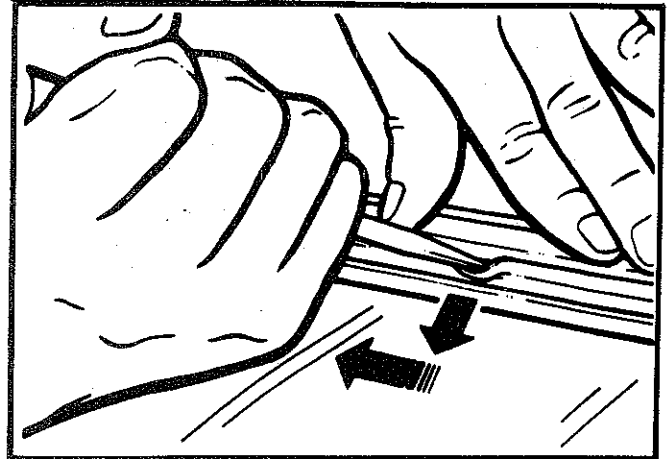

Fig. 30—Inserting moulding by sliding screw driver
(5) Slide the screw driver along the groove, keeping the weather strip open, while pressing the moulding firmly by hand, refer Fig. 30.